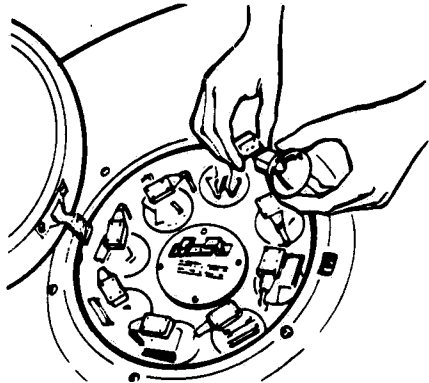

Figure 3-1. INSPECT LAMP HOLDERS AND LAMPS.
3.3.1 Inspect Lamps*, Lamp Sockets, and Lamp Holder (See Figure 3-1)